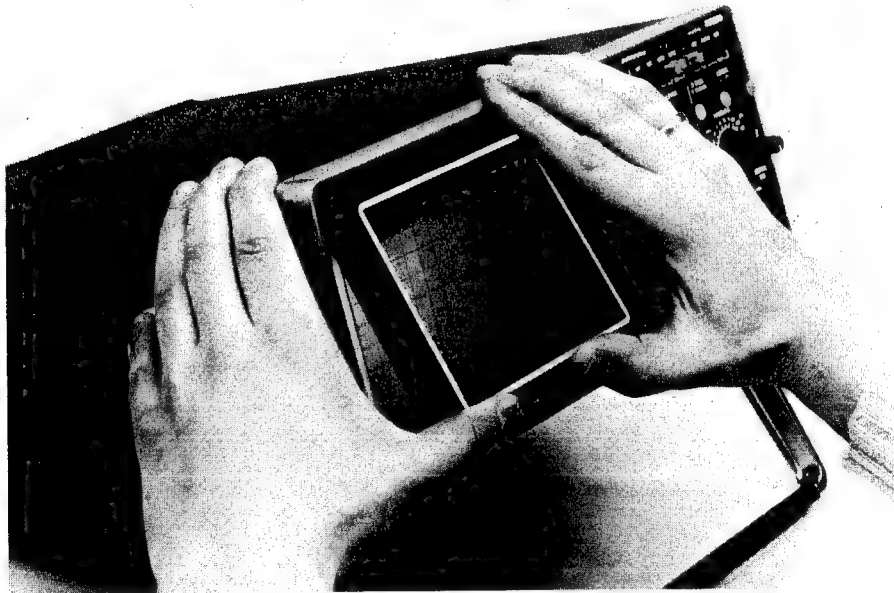

Fig. 2.9. Removing the bezel and the contrast plate
- Take hold of the bezel's bottom corners and gently pull it from the front panel (Fig. 2.9.).